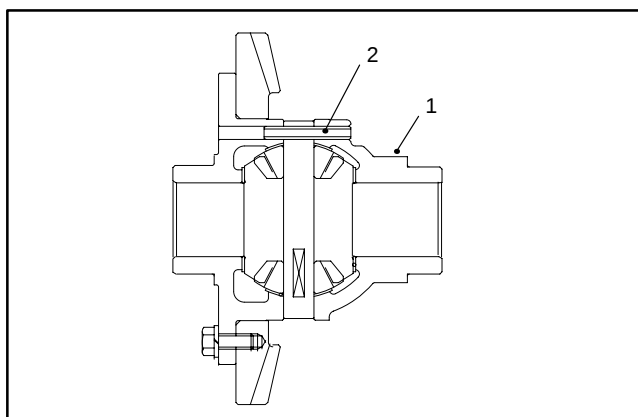

Figure 83
6. Drive the spring pin from the differential case with a punch and hammer. Discard the spring pin (Fig. 83).